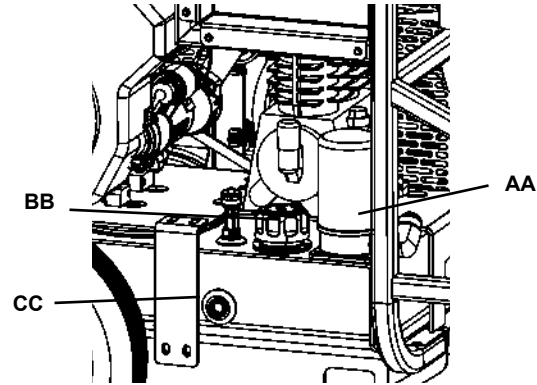

Figure 14
3. Unscrew the plug and drain the reservoir. Reinstall the plug before proceeding (Fig 14.)
4. Remove the return line filter and install a new filter assembly (Fig 14.)
5. Remove the hydraulic reservoir cap. Pour new, clean hydraulic oil into the reservoir until the oil level reaches to within 1 inch of the tank opening. Replace the hydraulic reservoir cap (Fig 14.)